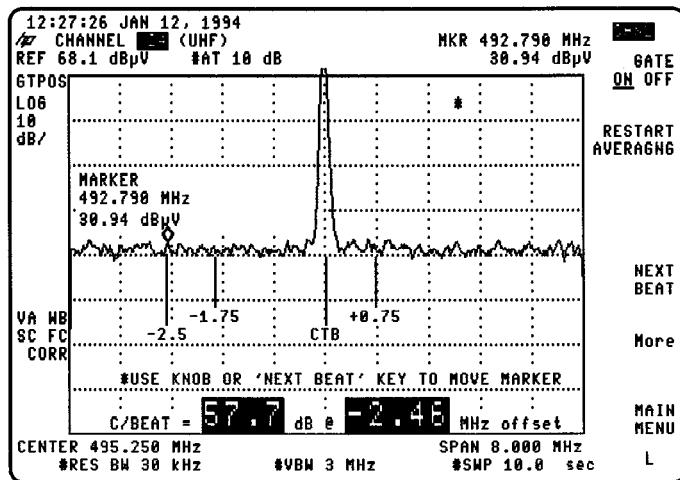

Figure 2-20. CSO Measurement (GATE ON)
- Results for the current marker position are displayed on the screen as shown in Figure 2-20.